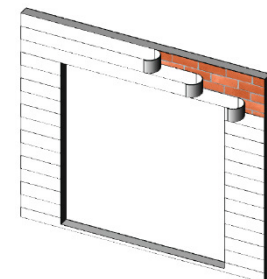

Figure 36:
4. Weather resistant building paper should be applied in a weatherboard fashion to complete the installation (Figure 36).